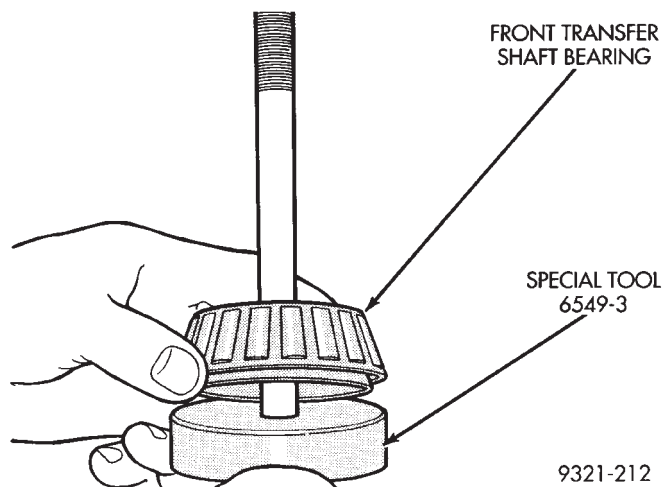

Fig. 302 Gauge Disc and Bearing
(3) Install new front bearing (actual bearing to be used during reassembly) onto gauge disc (special tool 6549-3) (Fig. 302).